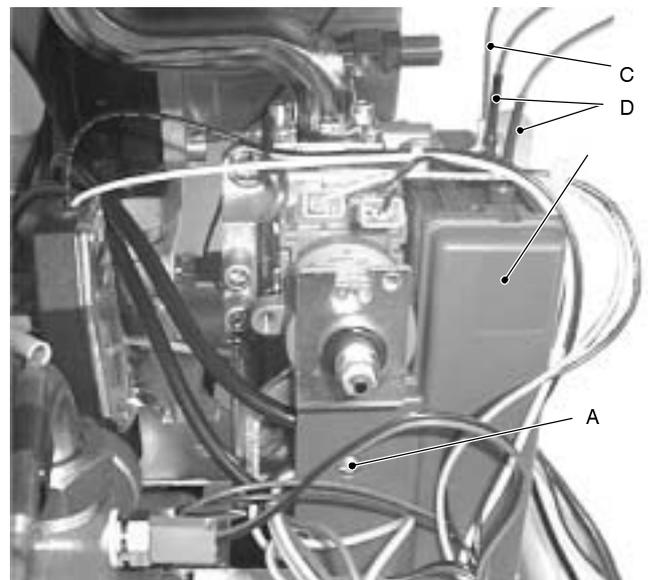

fig. 49
- 2 Unscrew screw *A* and remove the protection cover *B*; disconnect the flame detection cable *C* and the ignition cables *D* (fig. 49);